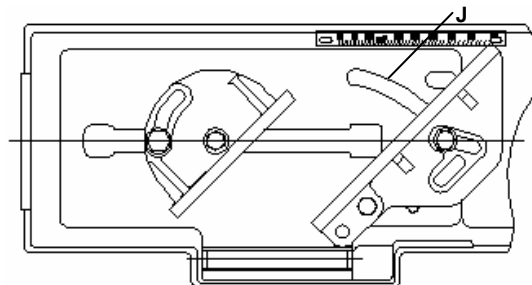

fig 2.
- I-2 The position for 90° cutting. (See fig2.)